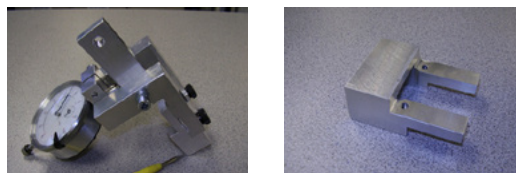

Figure 2 - Adapter and Dial Indicator
4. Assemble the Head Timing Adapter (PN: 33065) to the dial indicator (PN: 32453-01) as shown in Figure 2.